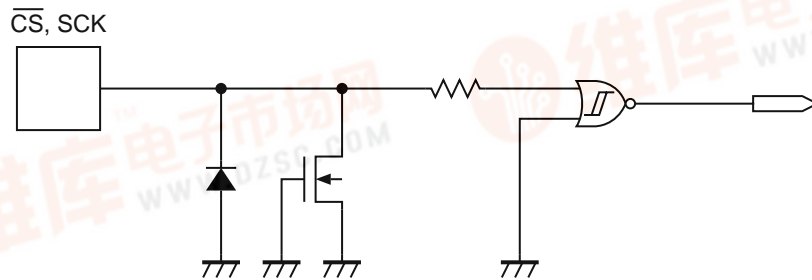

Figure 23  $\overline{CS}$ , SCK Pins
**Figures 23** and **24** show the equivalent circuits of input pins in S-25C010A/020A/040A. A pull-up and pull-down elements are not included in each input pin, pay attention not to set it in the floating state when you design.